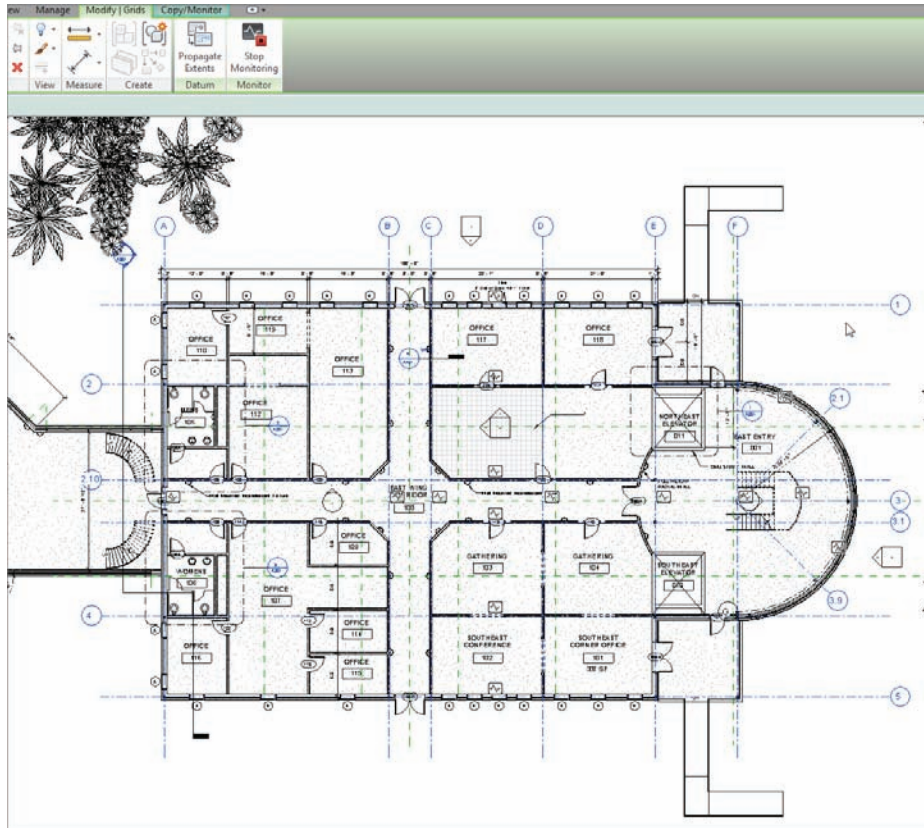

FIGURE 20.8 The copied grids
8. You may get a warning saying, “The following types already exist but are different.” Close the warning. Your grids should look like Figure 20.8.